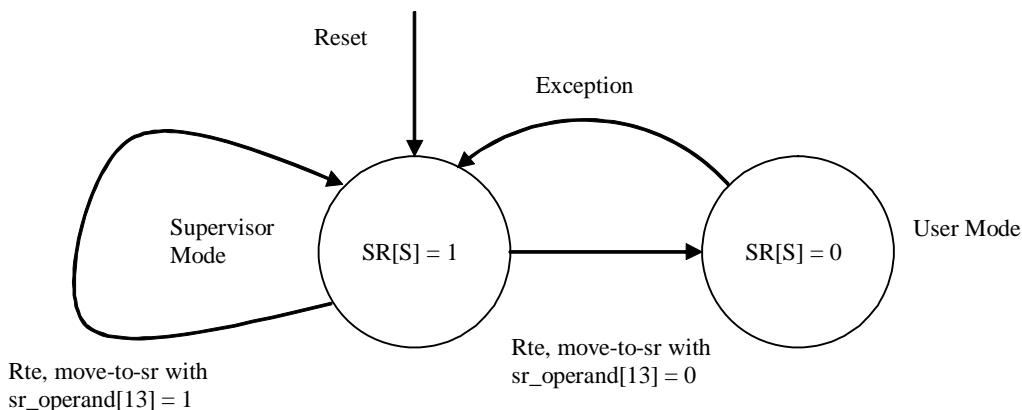

Figure 2-8. Processor Status State Machine
- 16-bit status register (SR).
Status register (SR) — This is a 16-bit register. It stores the processor status and includes the condition code register (CCR). When it is used in user mode only the lower 8-bit can be accessed. When used in supervisor mode the registers can be accessed. If a supervisor instruction is executed in user mode it generates a privilege violation exception. Figure 2-8 shows the SR behavior in a state machine.